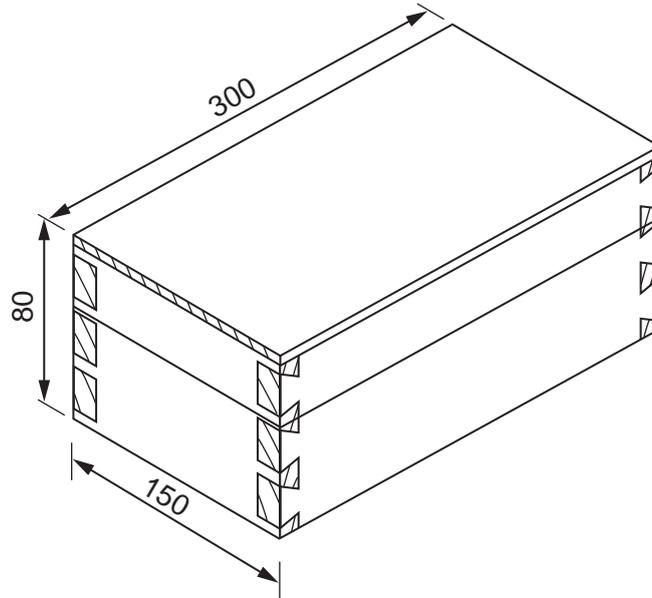

Fig. 5
- 2 Fig. 5 shows a Jewellery Box made out of solid hardwood.